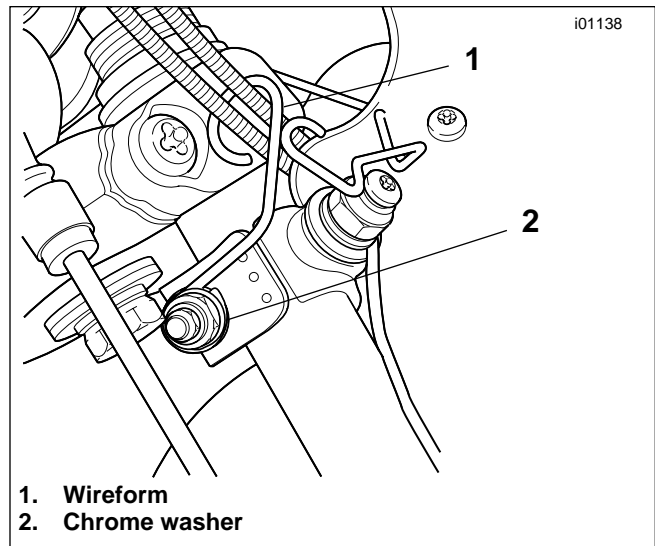

Figure 7. Throttle Cable Attachment on all handlebars except buckhorn-style
2. See Figure 7 and Service Parts Illustration on page 6. **For handlebar styles other than buckhorn pullbacks**, use wireform (1) (item 1 on Service Parts, sheet 6) included in hardware kit part number 58164-96 to secure throttle cables to upper mounting clamp as shown. Place chrome washer (2) from hardware kit (item 6 on Service Parts, sheet 6) between wireform and mounting clamp nut.